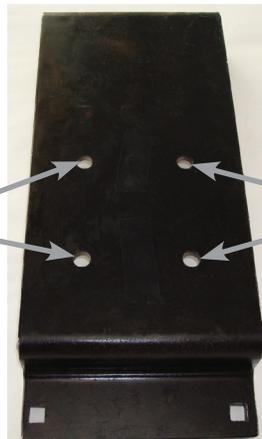

fig. 3
4. The lower bracket has holes in it for a left and right hand installation (Fig. 3).